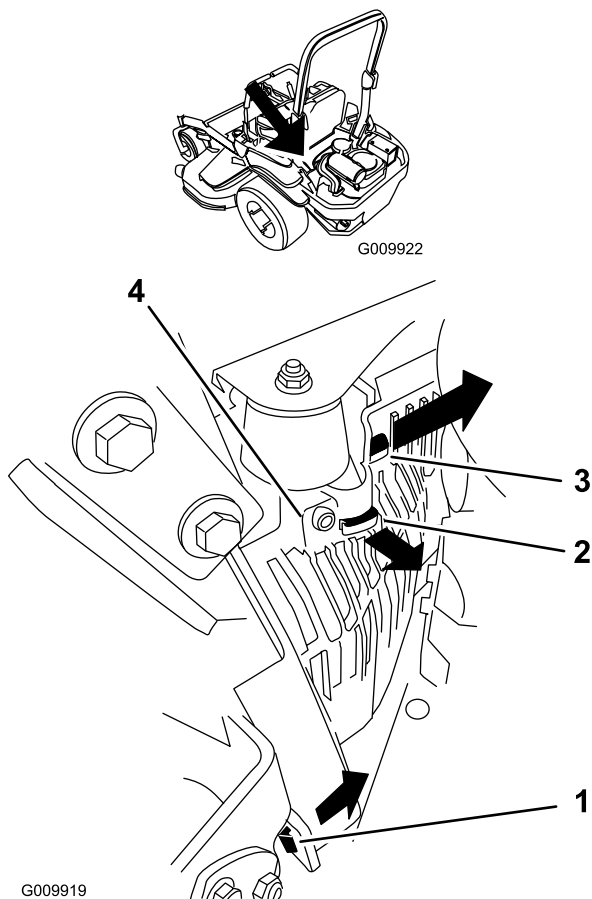

Figure 54
3. Remove the left-hand hydraulic unit shroud in the order listed with Figure 54.
5. Install the lefthand hydraulic unit shroud (Figure 54).